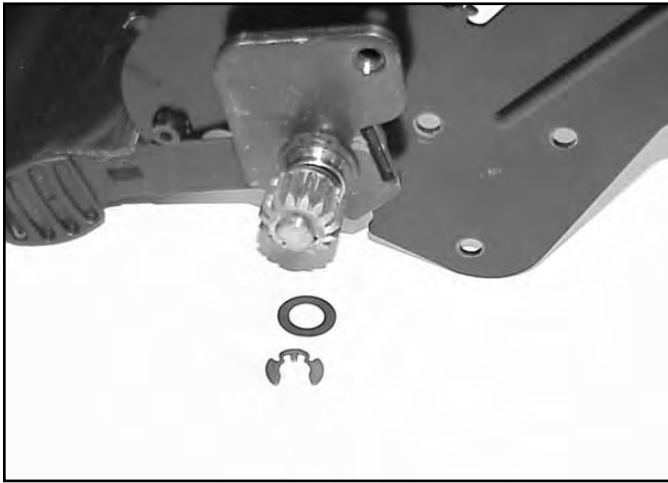

Fig 077
1. Remove the clip rings and thrust washers that secure the pinions to the axle (Fig. 077).